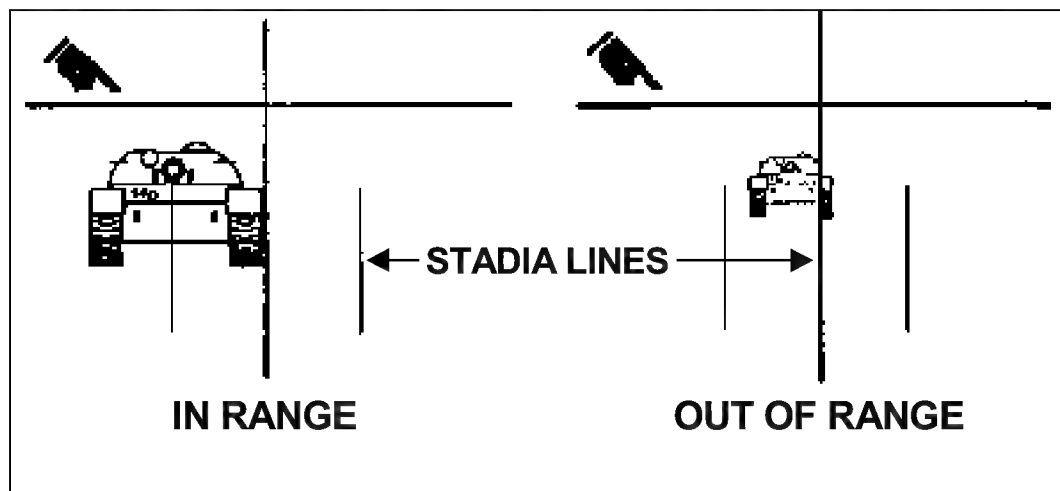

Figure 8-15. Range determination for frontal or rear target.
c. **Frontal (Head-On) or Rear (Going Away, Half-Stadia) Targets.** Adjust the sight picture by moving the launcher to align the vertical cross hair and one of the stadia lines on the target (Figure 8-15).